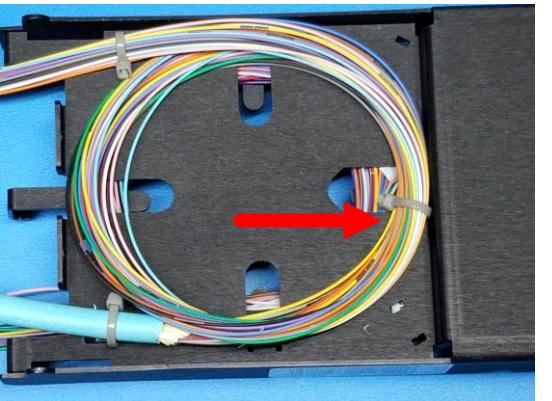

Figure 9
- 4.3 Re-install the trunk cable to the entrance tie down point and secure the service loop as shown in steps 3.7 and 3.8. Provide an additional tie wrap at the front of the storage as shown in **Figure 9**. Trim the tie wrap tails and install the rear lid.